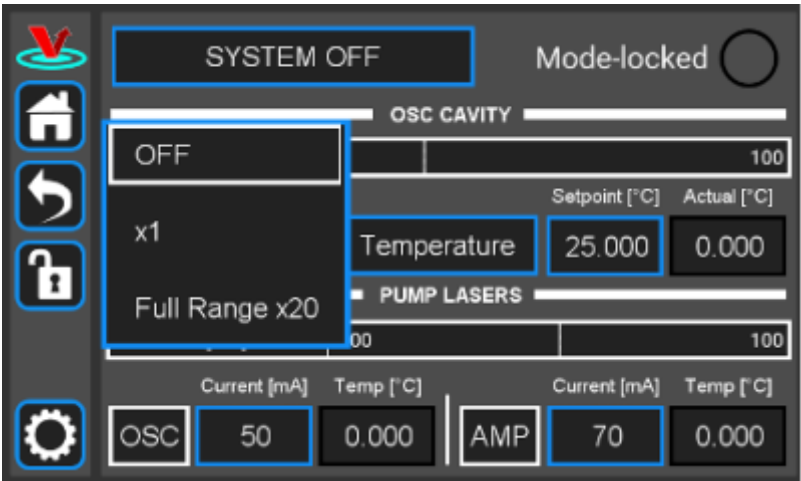

Fig. 8: Select PZT Gain
5. Touch the “PZT” touch screen button (figure 8) to bring up a drop-down menu and select “Full Range x20” to enable the PZT servo.